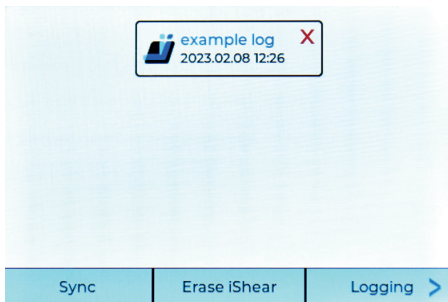
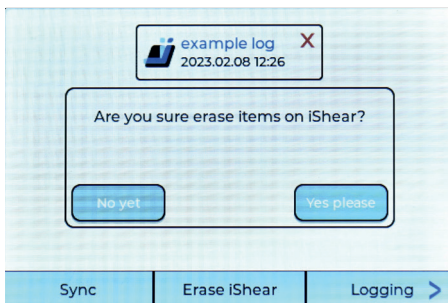

Figure 26
Figure 27
- Tap the 'Erase iShear' button (see Figure 26). A confirmation popup will appear, asking if you are certain about erasing the iShear memory. Tap 'Yes, please' to proceed, and all logs will be deleted (see Figure 27).